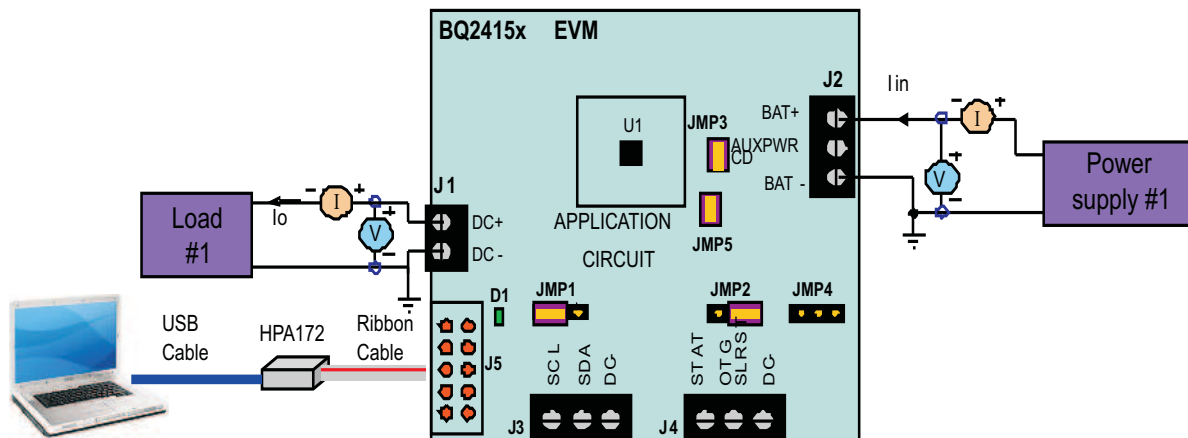

Figure 4. Boost Function Test Setup
2. Set the Load #1 current to 200 mA ±20 mA, but disable the output. Connect the output of the Load #1 in series with a current meter (multimeter) to J1 (DC+, DC-). Ensure that a voltage meter is connected across J1 (DC+, DC-). The setup is now like Figure 4 for HPA256.